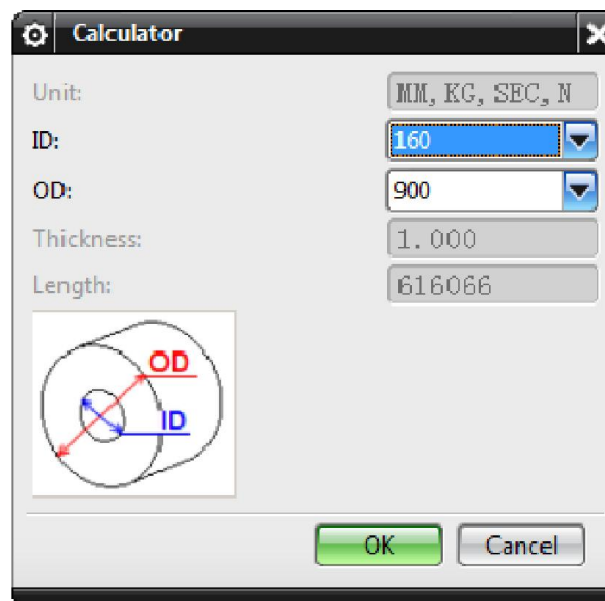

Figure 1.34 Calculator dialog box
Click on the  button, and the **Calculator** dialog box will be displayed, as illustrated in Figure 1.34. After the inner diameter (ID) and outer diameter (OD) values are selected, the coil length will be displayed in the Length field.